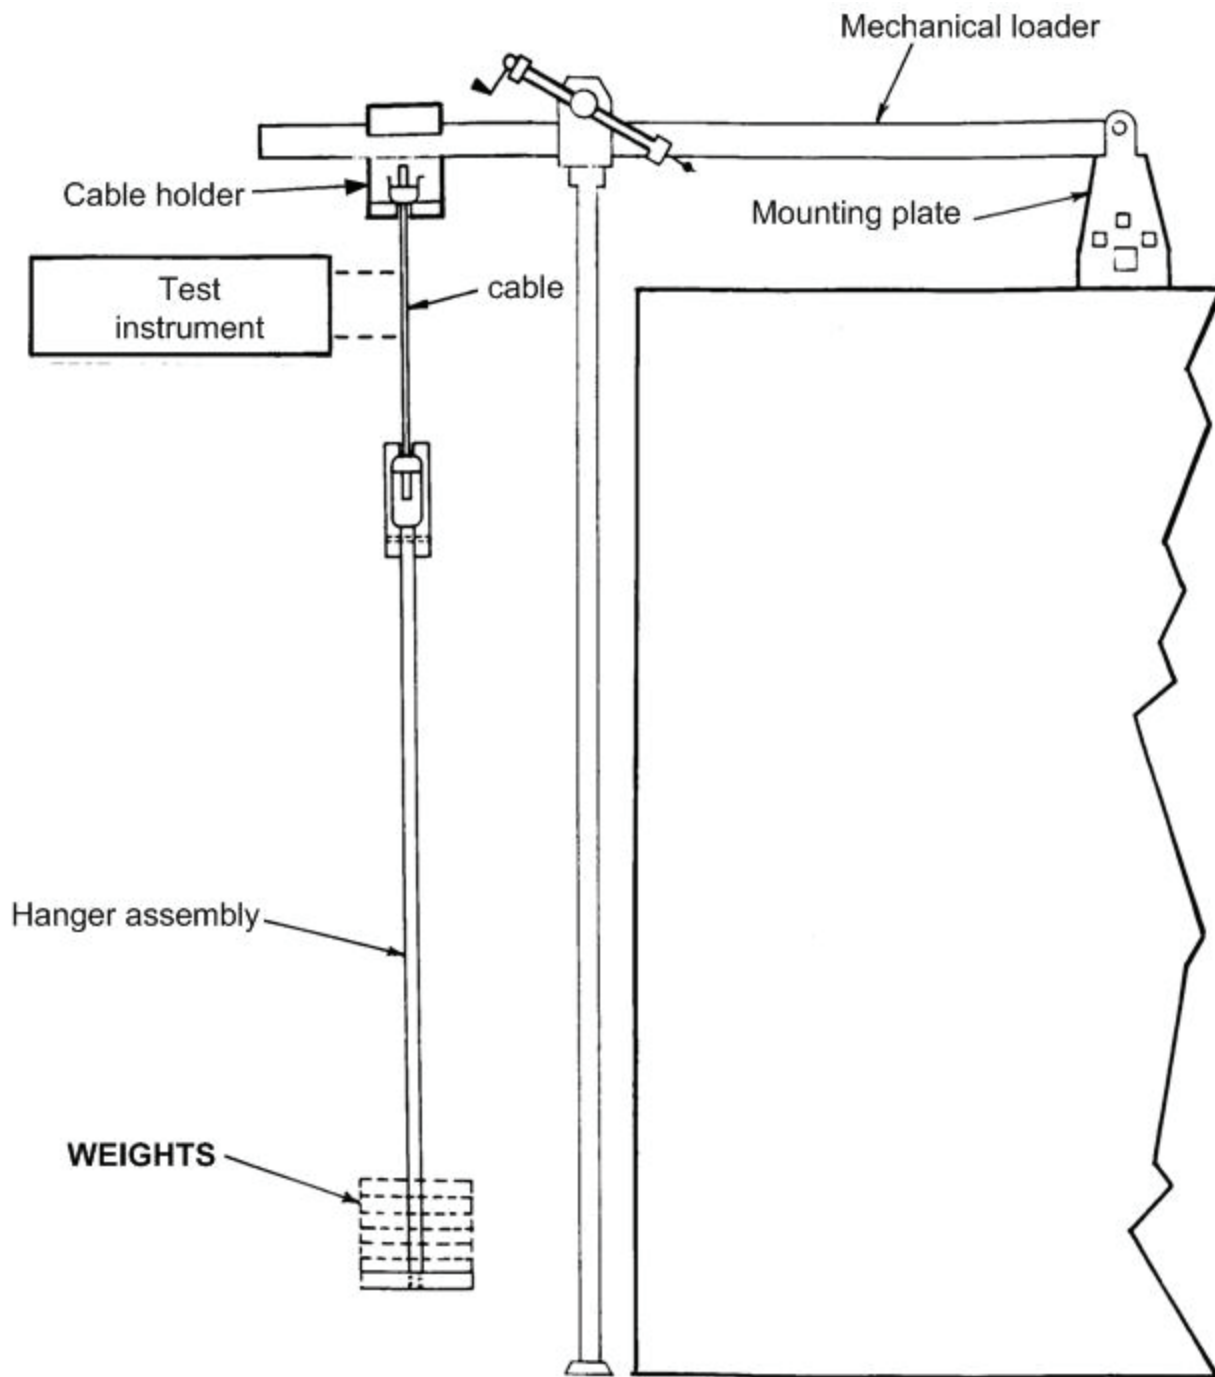

Figure 2. Equipment setup.
- i. Set up equipment as shown in figure 2.